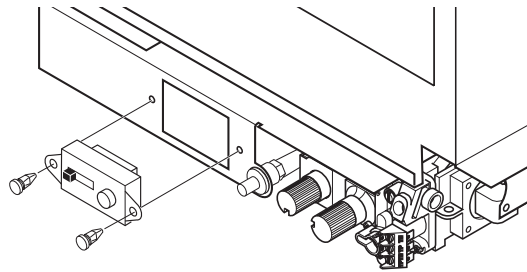

Figure 49 - Installing Remote Receiver
- Place receiver into valve bracket and align holes (see Figure 49).